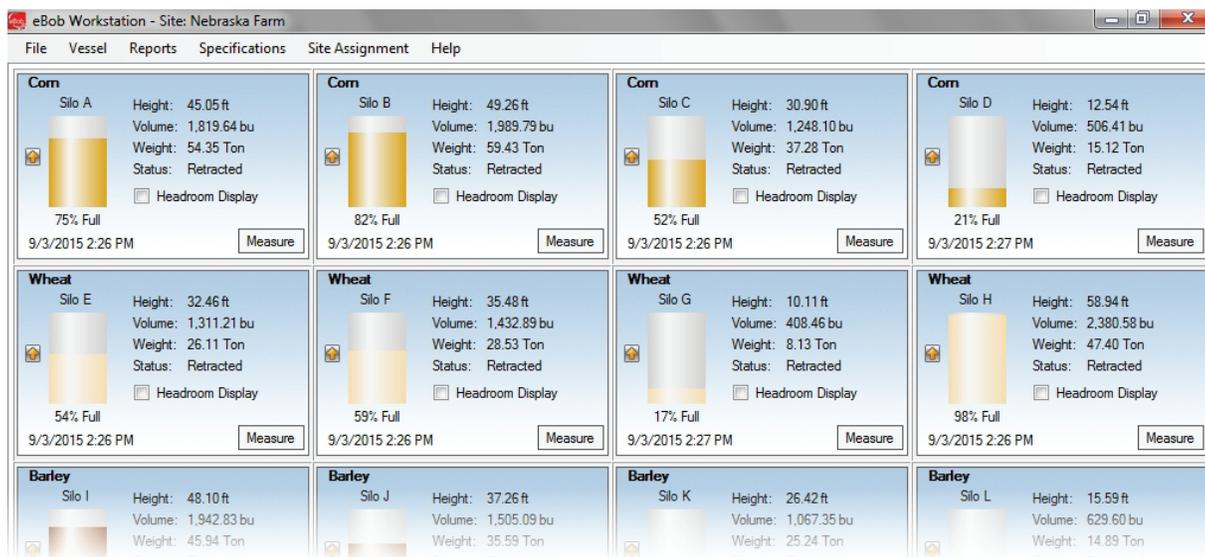

Figure 1
The main screen of eBob Workstation shown in Figure 1 provides a table of vessels, each represented by a panel, providing visual and detailed level indication. The main screen can display 16 vessels (panels) at a time with tabs along the bottom for quickly switching to view more vessels. There is also a menu system along the top that provides access to configuration screens for vessel setup, site setup, scheduling, alarms, email alerts and more.
- 1. Workstation** – This provides the user interface for eBob, it is what you will use to view vessels, product levels, configure the system and create reports. See Figure 1. It runs like most Windows programs, you double-click an icon on your desktop or click an icon in your Windows start menu and it opens a window for you to interface with, using a mouse and keyboard. There can be one or more Workstations in an eBob system. Refer to section 5 The Workstation for details.